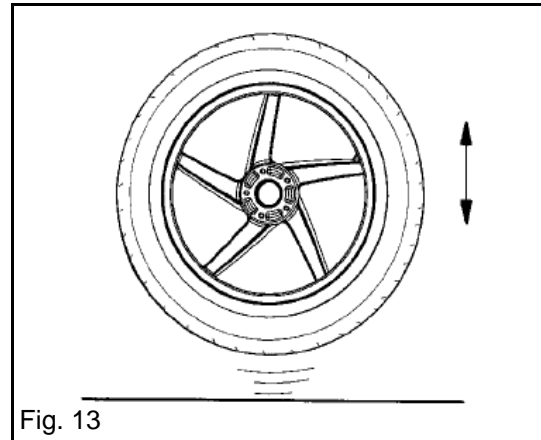

Fig. 13
15. Bounce tire on the floor several times while rotating tire. This will expand tire bead outward slightly which will make tire inflation easier. (Fig. 13)